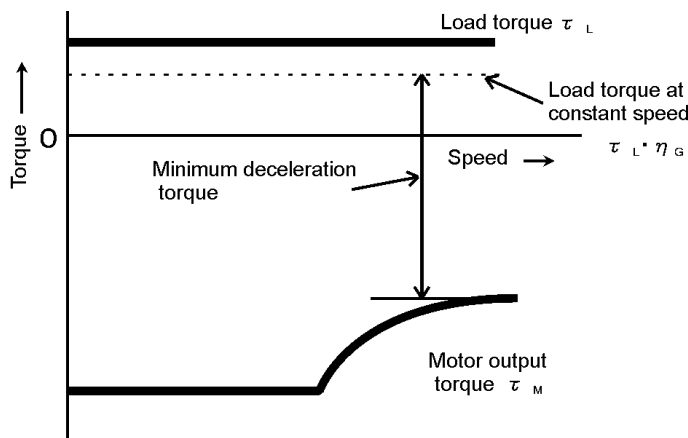

Figure 9-3 Example Study of Minimum Deceleration Torque (1)
- 2) Calculate minimum deceleration torque. (See Figure 9-3)